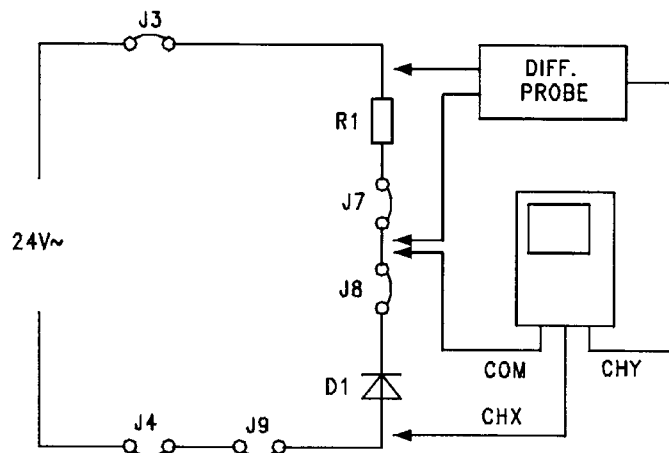

fig. B03.8
- connect jumpers J3, J7, J8, J9, J4 to produce the circuit of figure B03.8